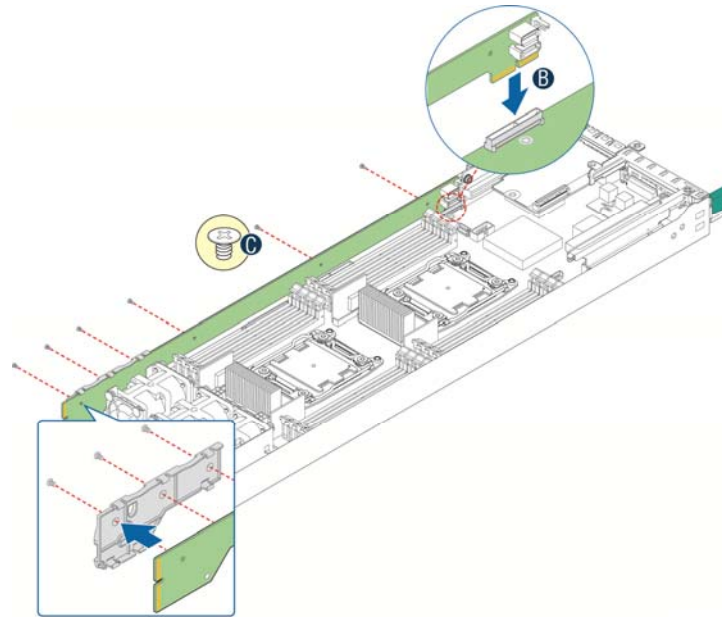

Figure 60. Installing the Bridge Board
3. Restore bridge board connections, See Figure 60